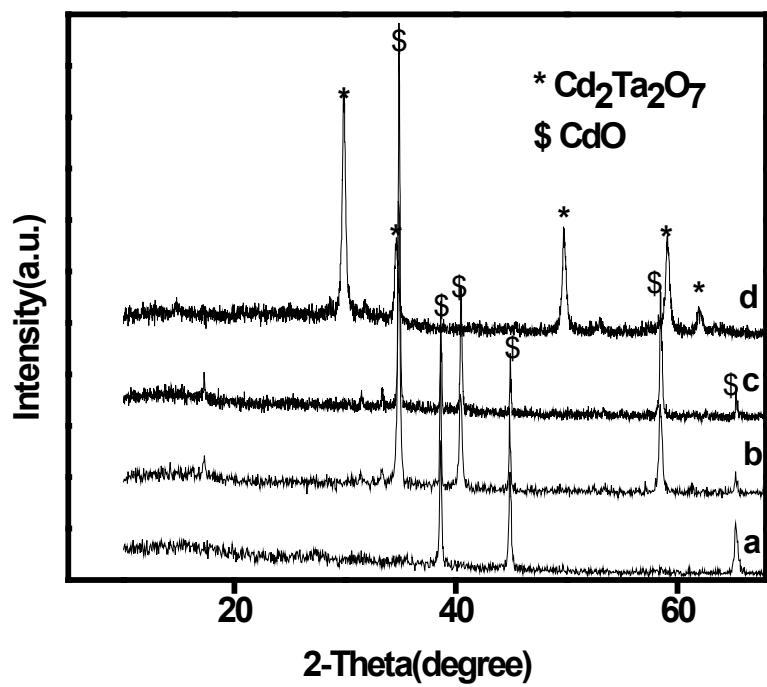

Figure S4
**Figure S4:** XRD patterns of cadmium tantalate obtained by hydrothermal method at different temperatures (a) 40°C (b) 80°C (c) 120°C and (d) 180°C for 48h and then calcined at 600°C for 8h (concentration of NaOH, 0.5M)